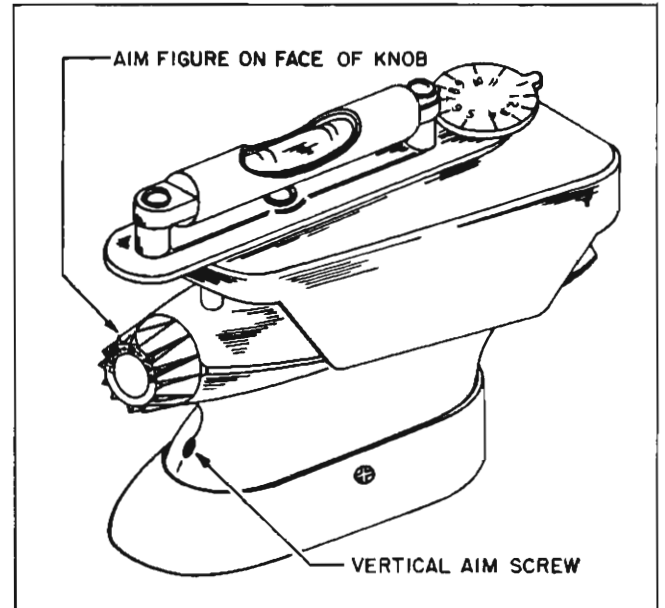

Fig. 12-28 Aiming Device Installed
4. Set aiming device No. 6 on top of phototube unit (Fig. 12-28).
**NOTE:** (1) the three points on aiming device must be resting on top of phototube unit.